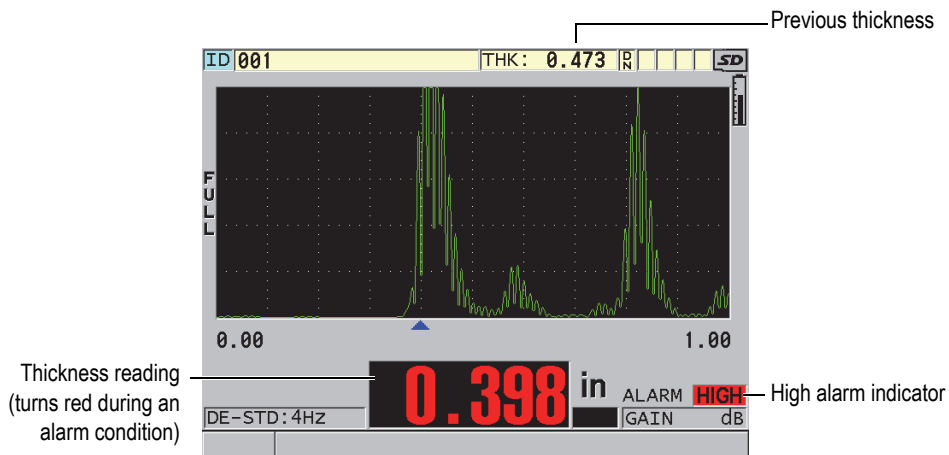

Figure 8-4 Example of a HIGH alarm indicator
- The **HIGH** or **LOW** alarm indicator flashes with a red background at the bottom right corner of the measurement screen (see Figure 8-4 on page 134).